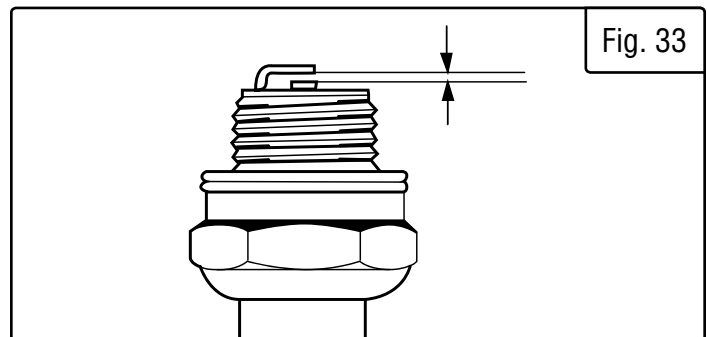

Fig. 33
5. Measure the plug gap with a spark plug gap gauge. The gap should be 0.7 to 0.8 mm (0.028-0.031 in). Carefully adjust the gap if necessary. See Fig. 33.